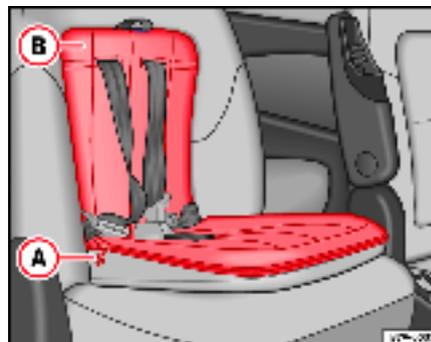

Fig. 42 Section of integrated child seat
- Open the zip ⇒ fig. 42 ① fully and undo it at the end.
- Pull the cover from the Velcro fastening in area ②.